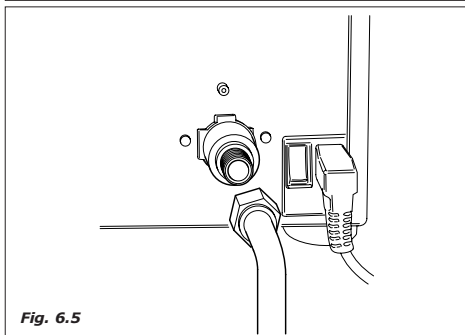

Fig. 6.5
- the foreseen connection is a 3/ 8 gas (Fig.6.5).